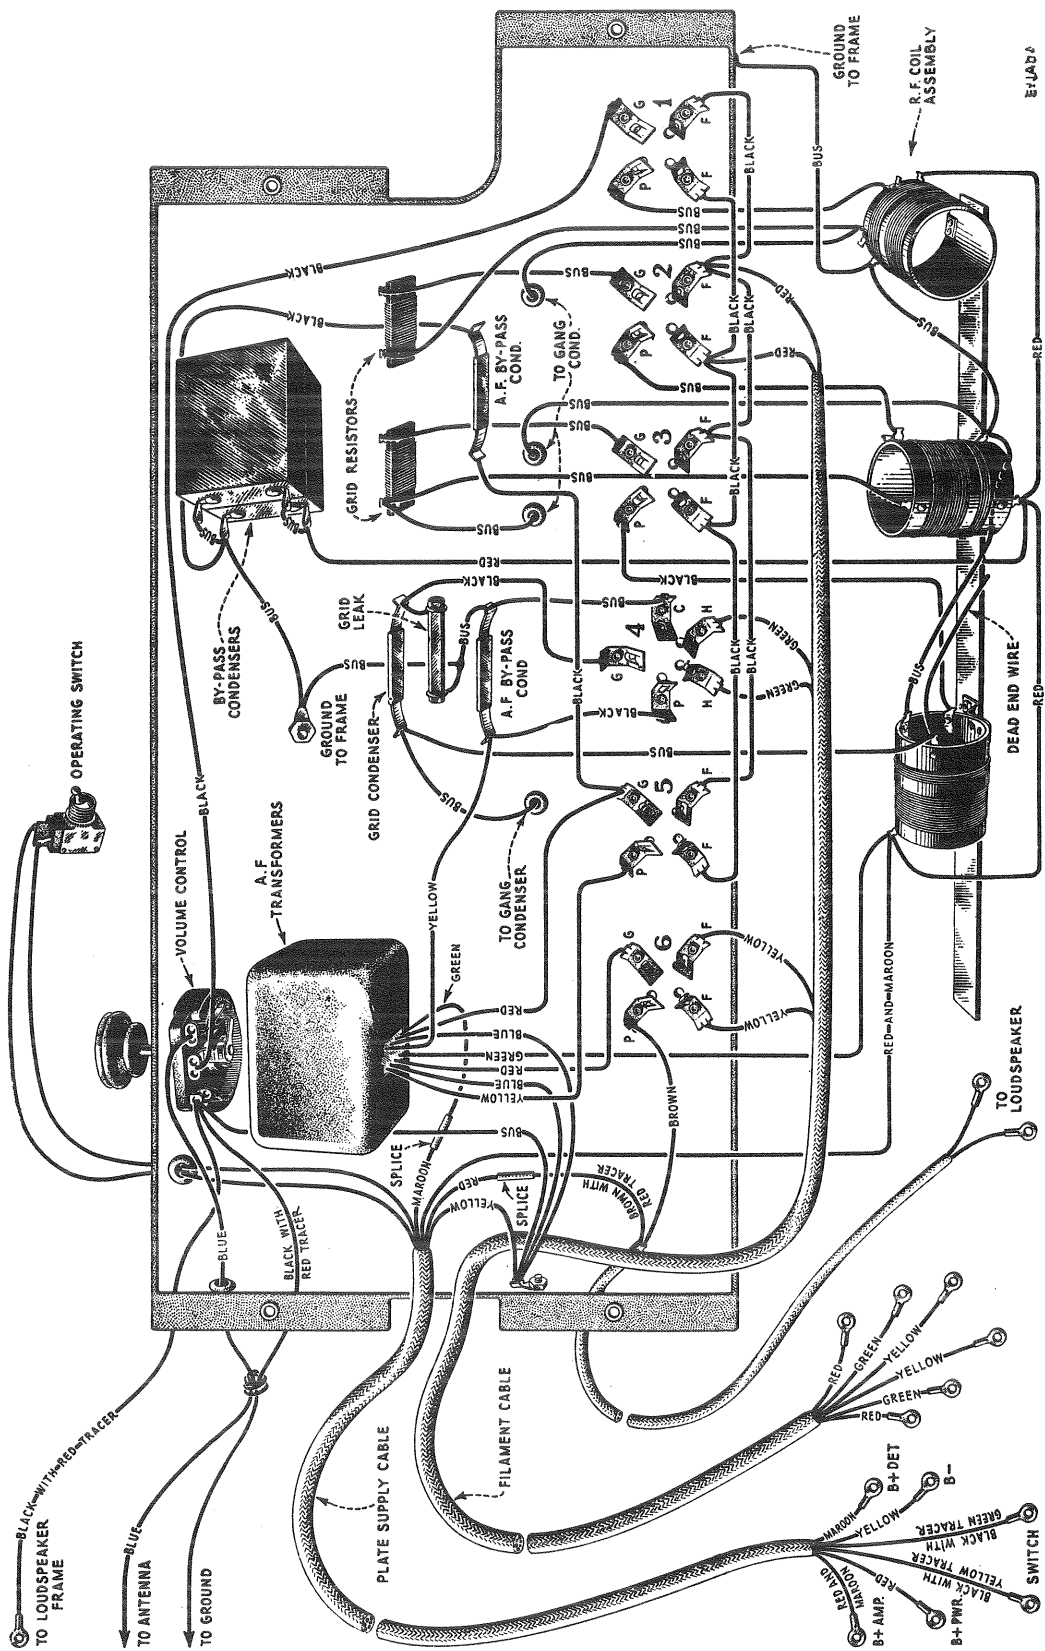
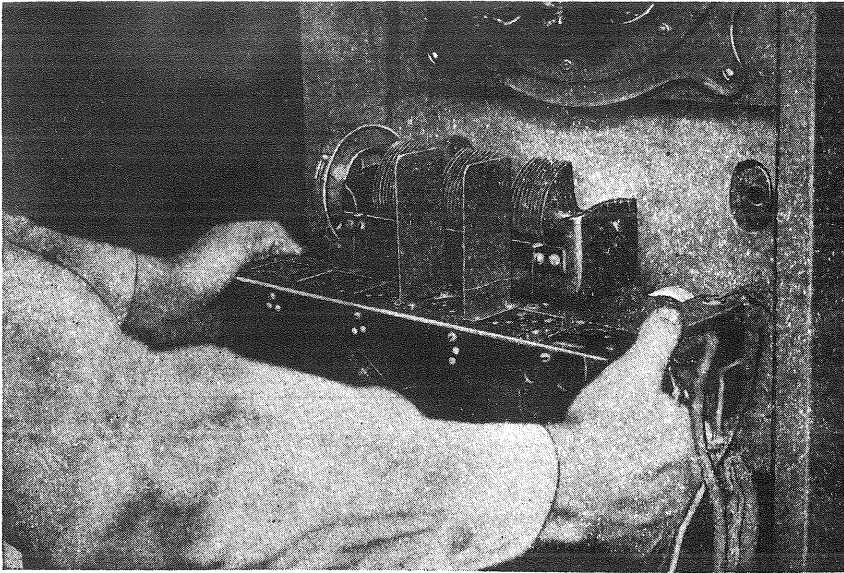

Figure 15—Wiring diagram of receiver assembly
Figure 20—Removing receiver assembly from cabinet
Remove all Radiotrons and the cables connected to the S. P. U. terminal board. See Figure 6 for lug numbers, and Figure 15 for socket numbers.
- (h) Remove the four screws that hold the receiver assembly on its shelf. It may now be lifted clear and placed in a position convenient for work (Figure 20). The parts are readily accessible and any repair or replacement may be easily made. The correct connections to all parts are shown in Figure 15.